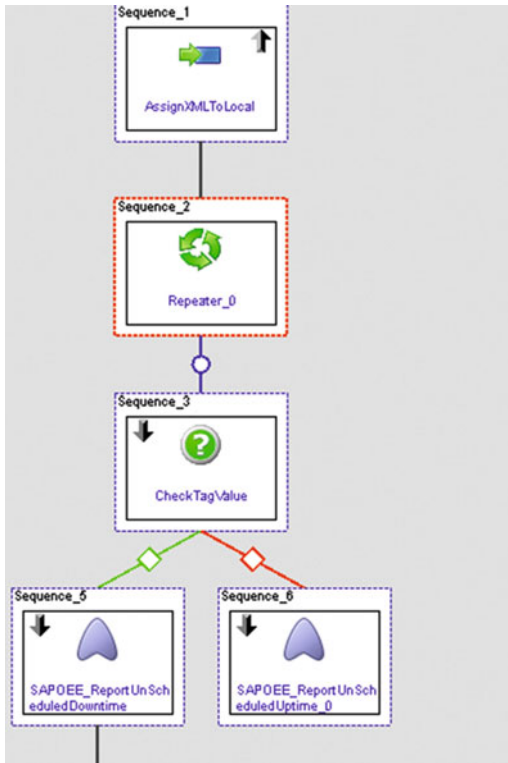

Figure 7-20. MII transaction to report machine event to OEE
3. Configure the preceding BLS transaction as a trigger transaction by specifying it in the destination for each PCo notification of type Machine Event. Refer to Figure 7-20. The notification XML passed from SAP PCo has the tag name, tag value, and timestamp.